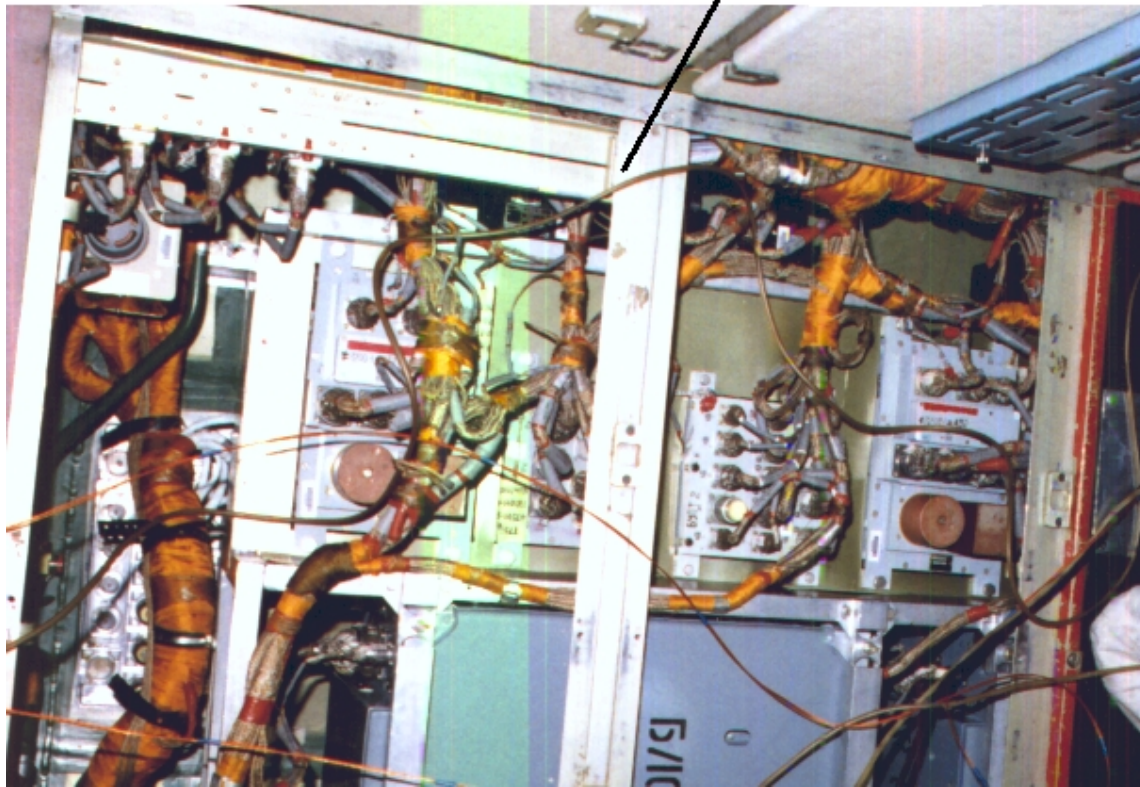

Figure 12.1-1. Transverse Tee Bracket to be removed during Storage Battery A73 Changeout
2. For A73, remove transverse tee bracket by removing bolts (two) and nuts (two) (see Figures 12.1-1, 12.1-2).
FAILED STORAGE BATTERY 800A REMOVAL (see Figures 12.1-1, 12.1-2)